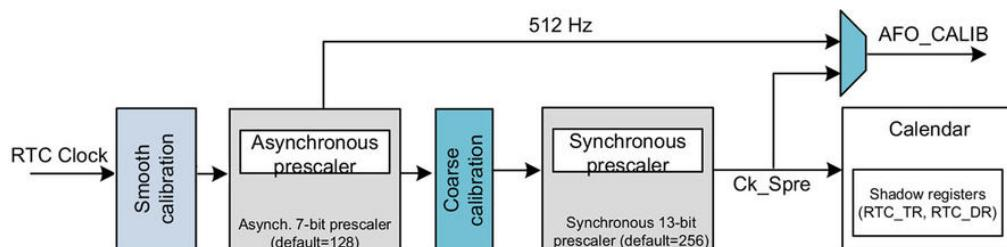

Figure 3: The structure of the RTC clock distribution
- It is not possible to check the calibration result, as the 512Hz output is before the calibration block (see Figure 3⁴). You can check the calibration in some STM32 MCUs, as the 1Hz CK_Spre output is after the coarse calibration block. Refer to the reference manual for your MCU.
When the reference clock detection is enabled, both *asynchronous* and *synchronous* prescalers must be set to their default values: 0x7F and 0xFF. When the reference clock detection is enabled, each 1Hz clock edge is compared to the nearest reference clock edge (if one is found within a given time window). In most cases, the two clock edges are properly aligned. When the 1Hz clock becomes misaligned due to the imprecision of the LSE clock, the RTC shifts the 1Hz clock a bit so that future 1Hz clock edges are aligned. The update window is three `ck_calib` periods (`ck_calib` is the output of the coarse calibration block - see Figure 3).